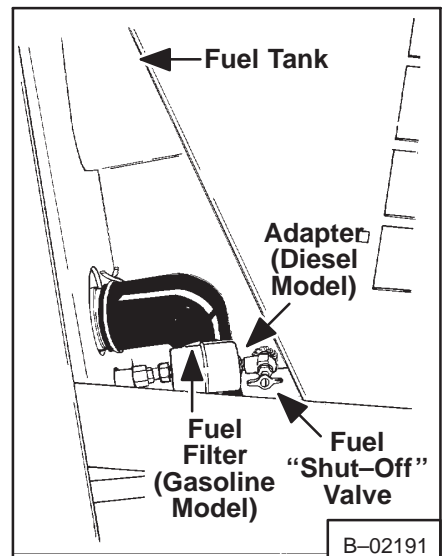

Fig. 1-21 Fuel Filter and Valve
NOTE: On some model loaders may not have the manual "shut-off". Install the parts as shown in figure 1-21 (See Parts catalog for the Parts).
1. Turn fuel valve off (Fig. 1-21).